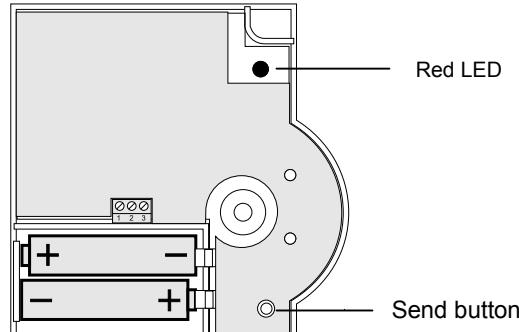

Fig. 2: Battery polarity and Send button
- ▶ Insert the supplied AA batteries with the correct battery polarity (see Fig. 2). The batteries have to be replaced when the red LED at the HCW 82/HCF 82 flashes (see "Changing batteries", Page 10).
- ▶ Activate the teach-in function within 4 minutes by pressing the Send button at the room temperature sensor (see Fig. 2, Send button).